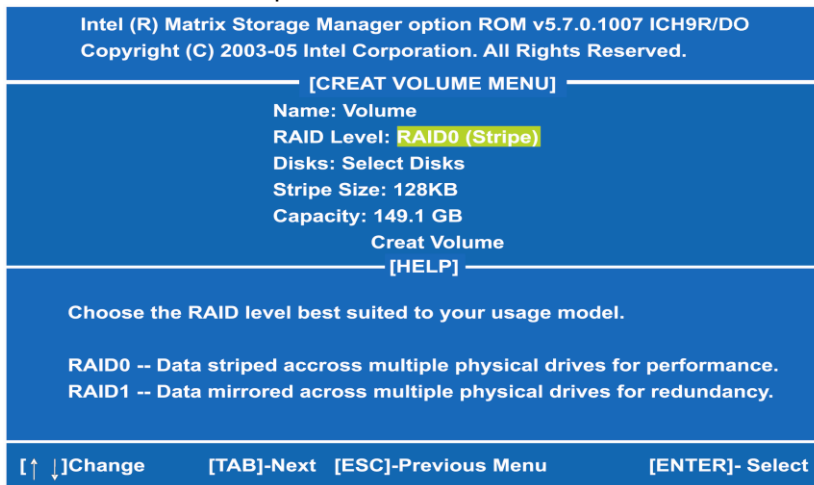

Figure 5
- (3)-3 After entering the CREAT VOLUME MENU screen, you can type the disk array name with 1~16 letters (letters cannot be special characters) in the item "Name". When finished, press ENTER to select a RAID level (as Figure 5). There are three RAID levels, RAID0, RAID1 and RAID5&RAID10. Select a RAID level and press ENTER.